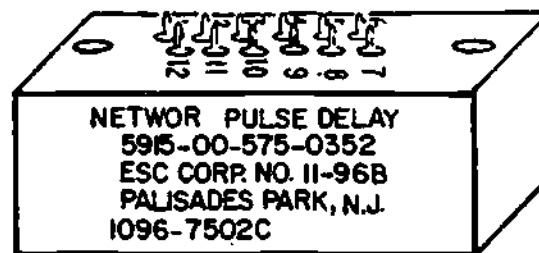

Figure 13
14. Even spiral-wound coax may require too much cable length for some applications. For very long time delays where the size of components must be kept to a minimum, the lumped constant delay line as shown in Figure 13 may be used.